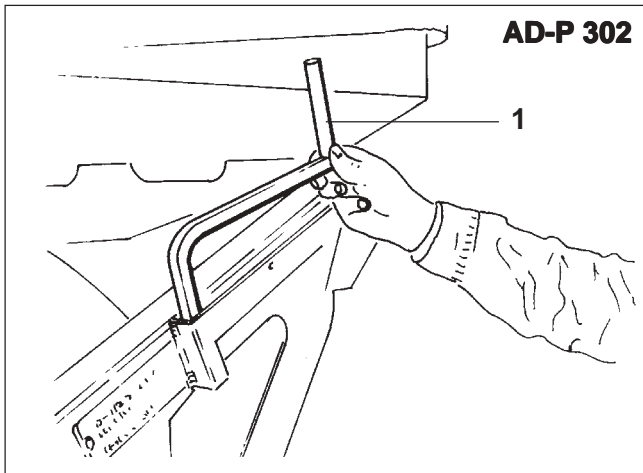
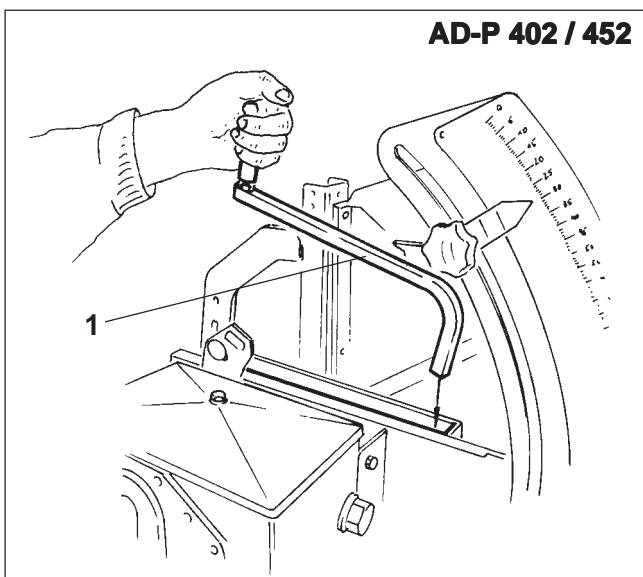

Fig. 21.5
Fig. 21.6
Take the calibration crank. The calibration crank (Fig. 21.5/1 resp. Fig. 21.6/1) is located in a retainer on the right hand part of the frame and is secured with a clip pin.
- place the calibration crank back into the retainer (Fig. 21.5 resp. Fig. 21.6) and secure by clip pin